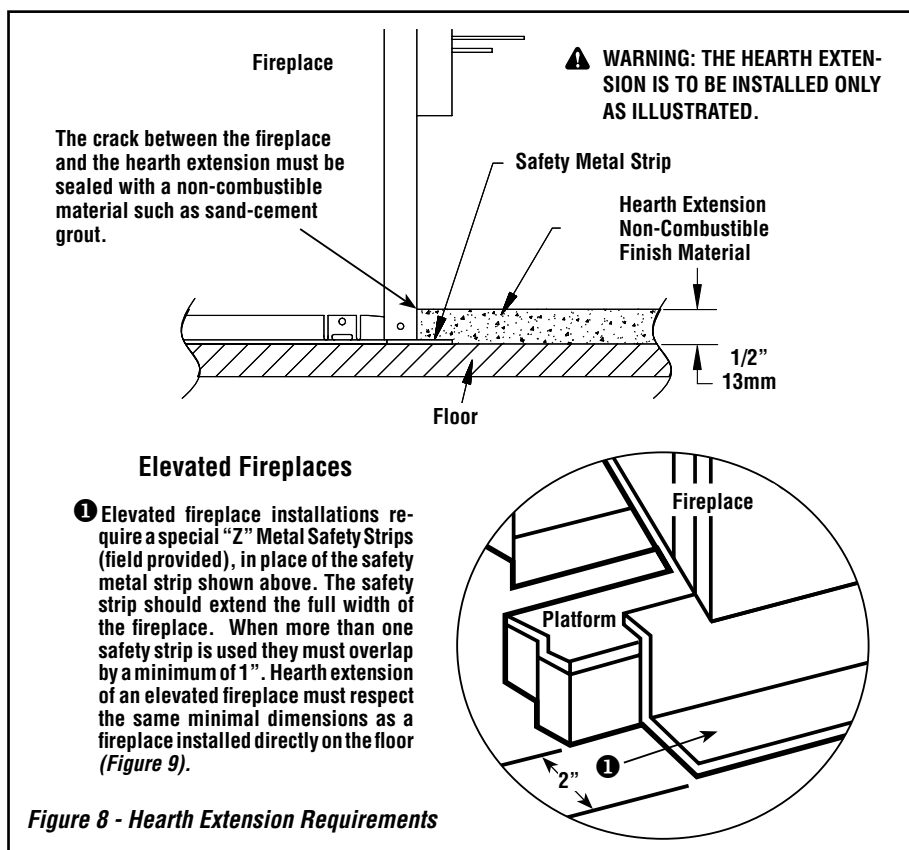

Figure 8 - Hearth Extension Requirements
The construction of the framing, facing, and mantel must be in accordance with the standards and the following illustrations (**Figures 8 and 9**):
- C. Frame the fireplace with vertical studs at the sides of the fireplace running from floor to ceiling (see **Figure 8**). If combustible facing is to be used, position the studs back, from the front edge of the fireplace (a space that is the thickness of the facing material, so that the facing can be installed flush with the fireplace facing). Frame headers between the vertical studs only as follows:
The fireplace may be installed directly on a combustible floor. The supplied safety metal strip must be positioned as follows: One half under the front of the fireplace and the other half must extend on the floor over which the hearth extension will be built (see **Figure 8**).